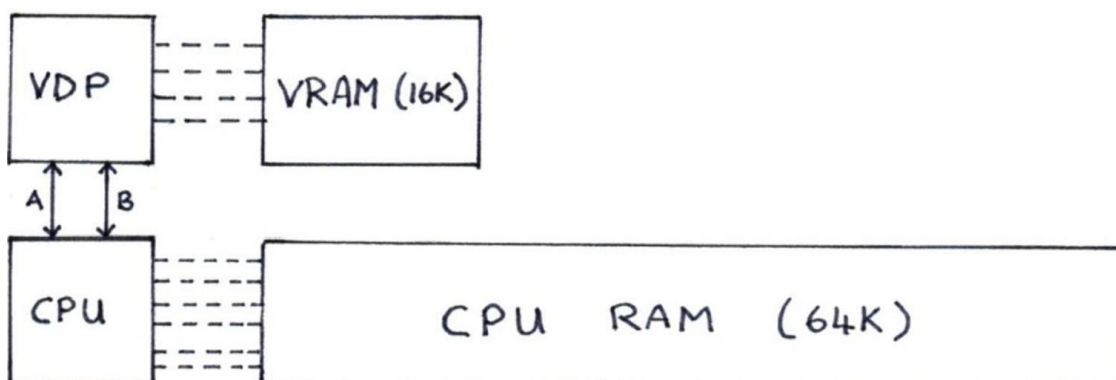

Figure 2-1: VRAM Memory Architecture.
On the otherhand, the Memotech, MSX and Einstein machines have a special RAM block which is used only for graphics. This block of RAM is 2^{14} or 16384 bytes long and is independent of the CPU's RAM. The special RAM is called Video RAM, VRAM. VRAM is used for storing all graphic, sprite and text patterns. Figure 2-1, illustrates the relationship between the VDP/VRAM and the CPU/RAM systems.
Figure 2-1 is a IN - OUT mapped architecture, where the Z80 CPU communicates with the VDP via the READ (IN) & WRITE (OUT) data lines on the CPU, see chapter 10 on SOUND for a more detailed description. The advantages of a IN-OUT mapped dedicated graphics processor with its own private ram, VRAM, is threefold:
As already stated the VDP communicates with the host CPU via communication lines, ie Ports A & B, see figure 2-1. Port A is used for data transfers to and from the VDP & CPU, ie the moving (writing) of data to VRAM or reading data from VRAM, for example, reading the screen as required for screen dump printouts, see chapter 8.